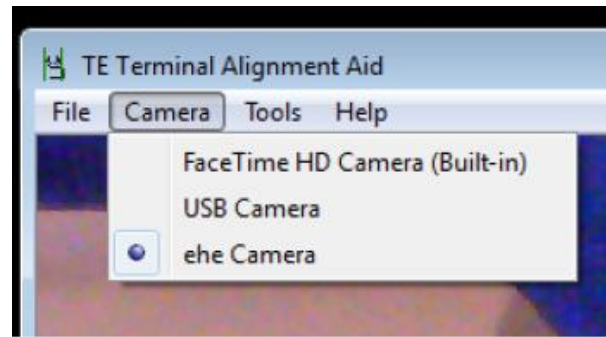

Figure 4
Adjust the focus by turning the focus adjusting barrel on the camera assembly shown in Figure 4.
1. If the computer has a built-in webcam or any other camera connected to it, it might be necessary to select the camera using the Camera menu. See Figure 4.